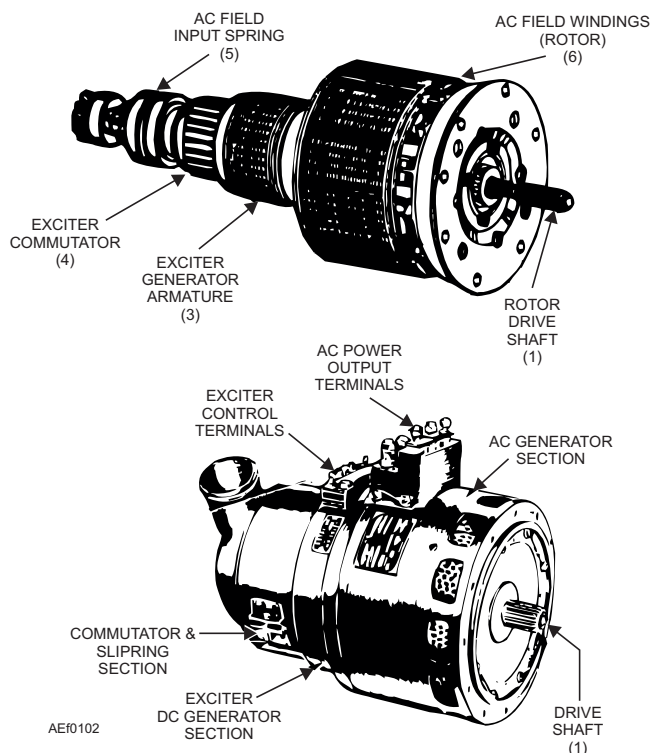
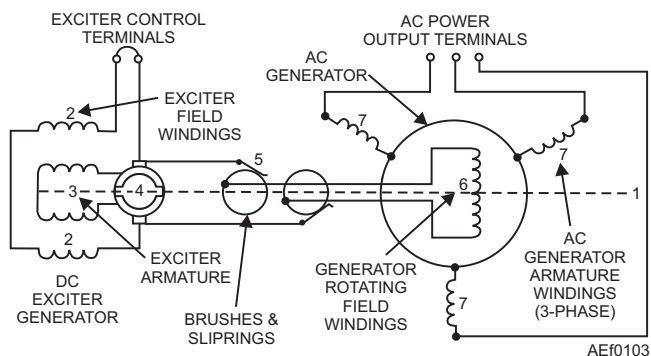

Figure 1-2.—Brush-type, three-phase ac generator.
Figure 1-3.—Brush-type, three-phase ac generator schematic.
BRUSH-TYPE.—Figure 1-2 shows a brush-type ac generator. It consists of an ac generator and a smaller dc exciter generator as one unit. The output of the generator supplies ac to the load. The only purpose for the dc exciter generator is to supply the direct current required to maintain the ac generator field. Figure 1-3 is a simplified schematic of the generator.
Look at figures 1-2 and 1-3 as you read this section. The exciter is a dc, shunt-wound, self-excited generator. The exciter field (2) creates an area of intense magnetic flux between its poles. When the exciter armature (3) rotates in the exciter-field flux, voltage is induced in the exciter armature windings. The output from the exciter commutator (4) flows through brushes and slip rings (5) to the generator field. Being dc, already converted by the exciter commutator, the current always flows in one direction through the generator field (6). Thus, a fixed-polarity magnetic field is maintained in the generator field windings. When the field winding rotates, its magnetic flux passes through and across the generator armature windings (7). The ac in the ac generator armature windings flows through fixed terminals to the ac load.